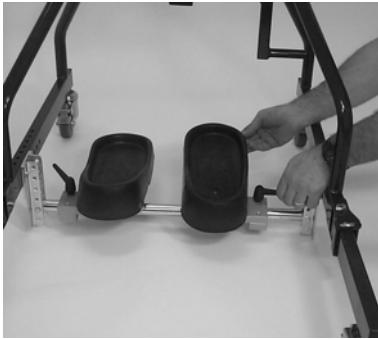

Figure 4
2. Foot pad width position, plus plantar or dorsi-flexion adjustments may all be accomplished by loosening the black ratchet knob and sliding the Foot Pad to the desired setting (*Figure 4*).